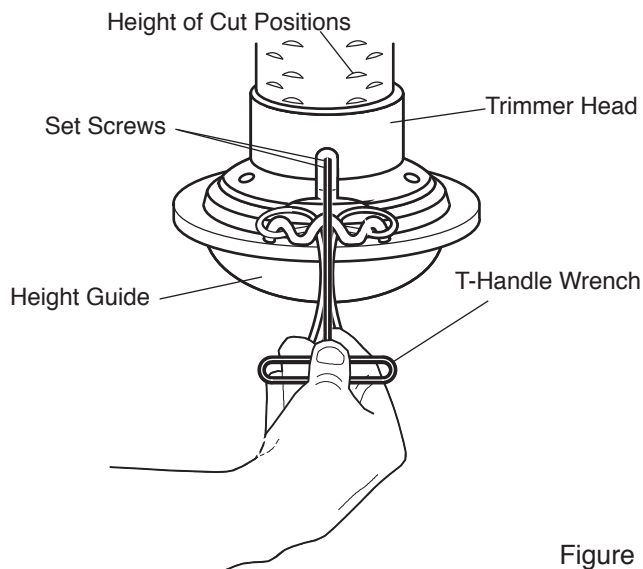

Figure 10
1. Use the T-Wrench, found in a parts bag, to loosen the (2) set screws. (See Figure 10)
**NOTE:** The (2) set screws are only on one side of the trimmer head. If you don't see the set screws, check the opposite side. Both set screws need to be loosened to change the height of the cut.